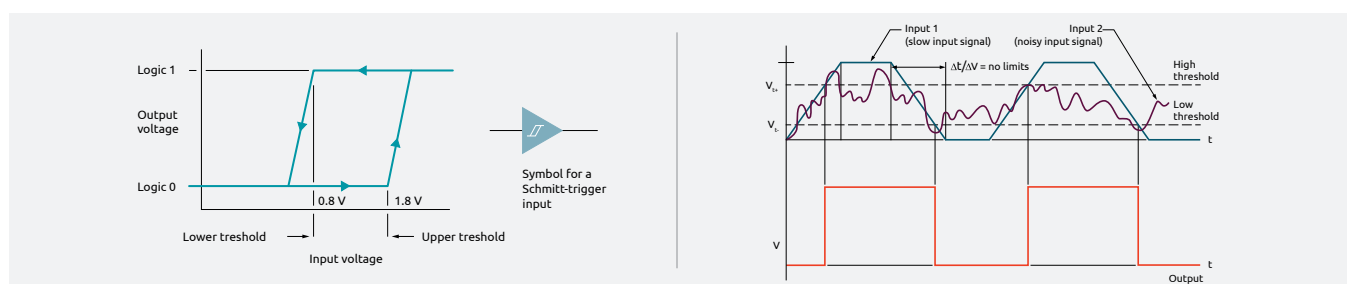

Fig. 30 Schmitt trigger inputs input hysteresis curve (left) and signal response (right)
- › Schmitt trigger inputs, to remove noise from signals (Fig. 30) and improving signal integrity related to slow rising signals in noisy automotive environments. Nexperia has a wide voltage range of devices available from below 1 V to 5.5 V.